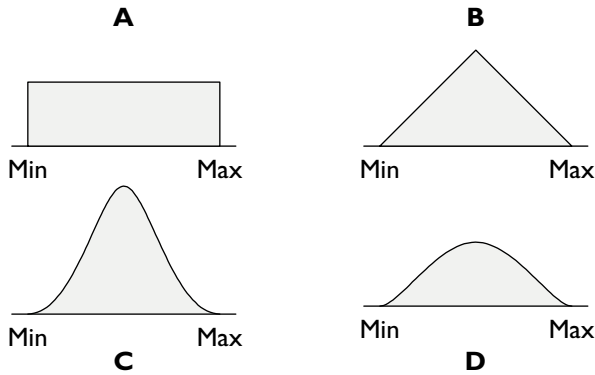

Figure 8-7. Risk profiles
Step 2. Select the Appropriate Risk Profile. The risk profile is intended to model the most likely distribution of potential costs for each activity. Profile A, for example, is suggesting that the cost of the activity could very well fall anywhere within the overall range. (See Figure 8-7.) A triangular distribution that peaks at the most likely cost is the most common choice, as it represents a very reasonable assumption. Entering data for this step consists of a simple push of a button.